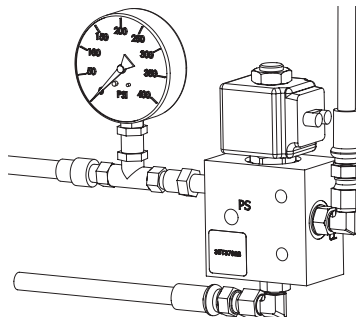

Figure 2 – Pressure Port Connection
- c) Install a second 400 PSI pressure gauge in the "IN" port at the solenoid valve. See figure 2 below.